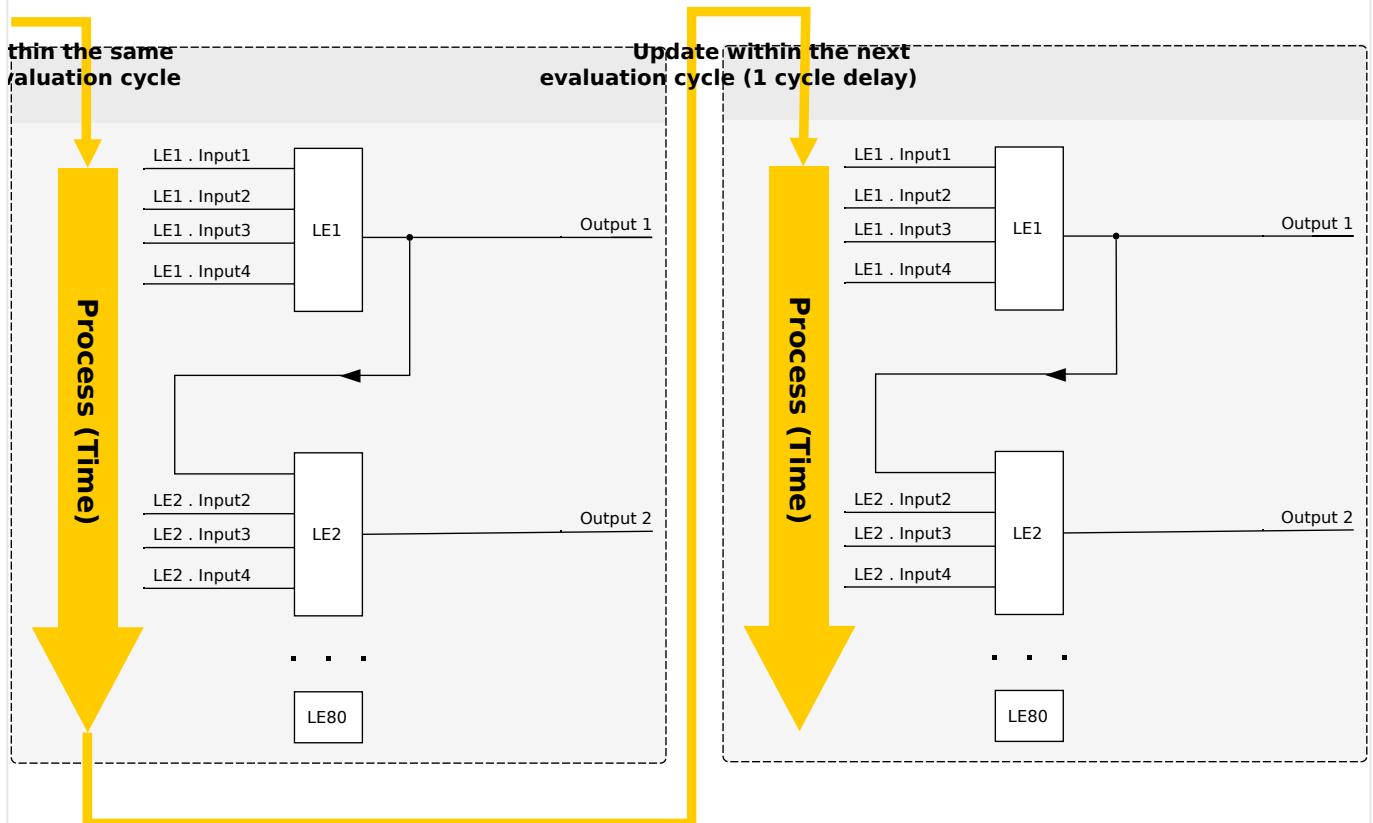
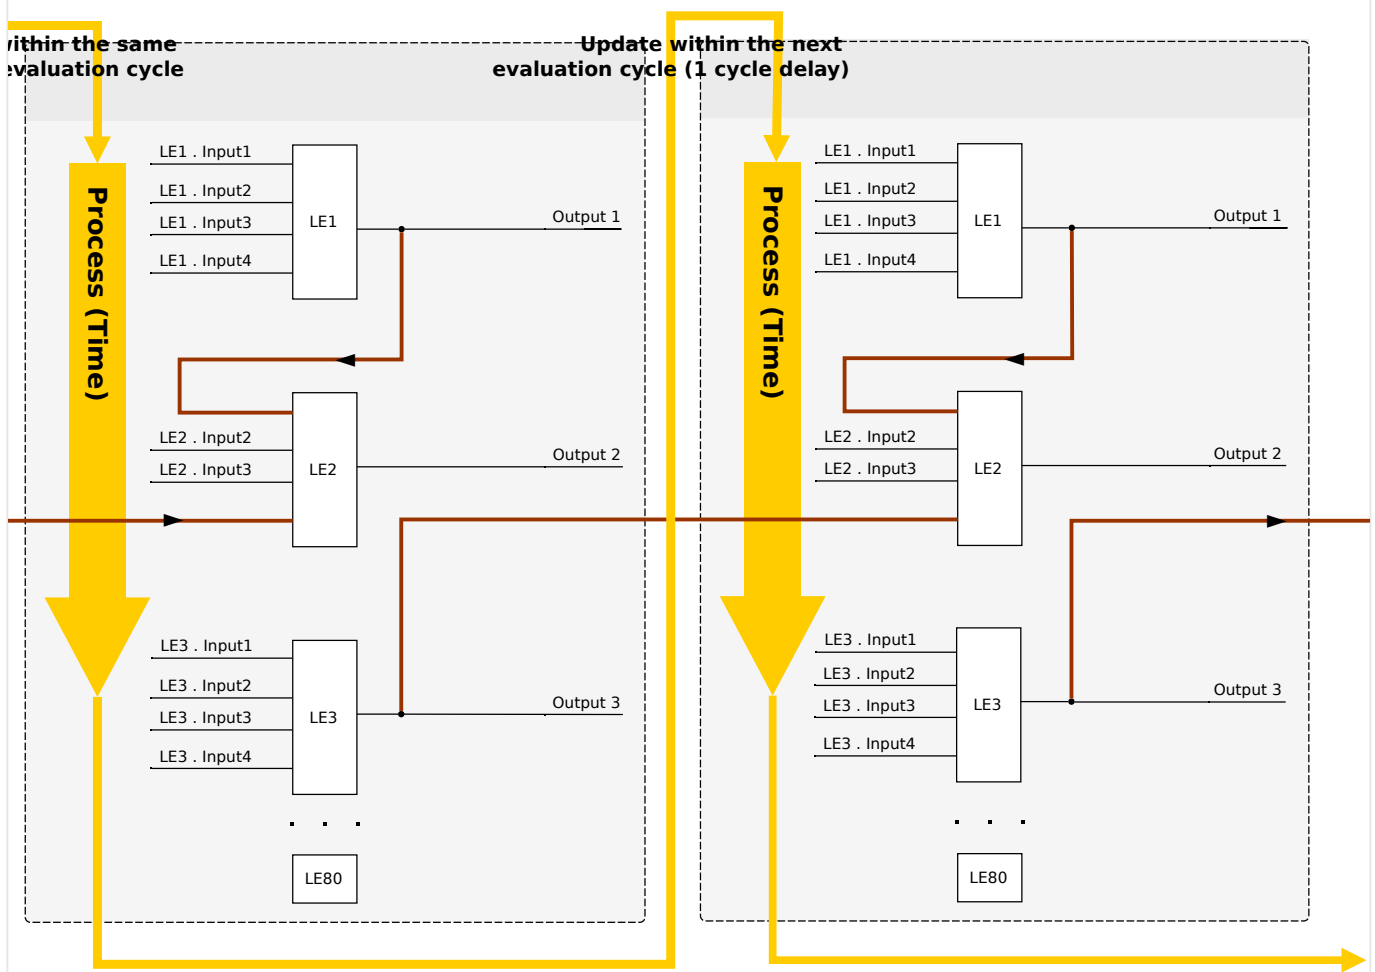

Fig. 116: Cascading in Ascending Order.
Fig. 117: Cascading in Descending Order.
- **Ascending** sequence means that some output is fed into the input of a logic equation with **higher** number. For instance, diagram ↪Fig. 116 below shows an example where the result of Logic Equation LE1 is used as an input of Logic Equation LE2.
- **Descending** sequence means that some output is fed into the input of a logic equation with **lower** number. For instance, diagram ↪Fig. 117 shows an example where the result of Logic Equation LE3 is used as an input of Logic Equation LE2.
Both ascending and descending sequences may be used and combined one with the other, with no immediate difference. However, due to the evaluation of all equations in ascending order the actual run-time values that are fed in at the input of an equation will have a different “age”, as is shown in ↪Fig. 116 and ↪Fig. 117 below.
In the example shown in Fig. 117 above, “Logic Equation 2” uses the output states of two other equations, “Logic Equation 1” and “Logic Equation 3”. The result of “Logic Equation 1” is used in ascending order and has therefore been evaluated within the same process cycle. The result of “Logic Equation 3” is used in descending order and has therefore been evaluated in the previous process cycle.